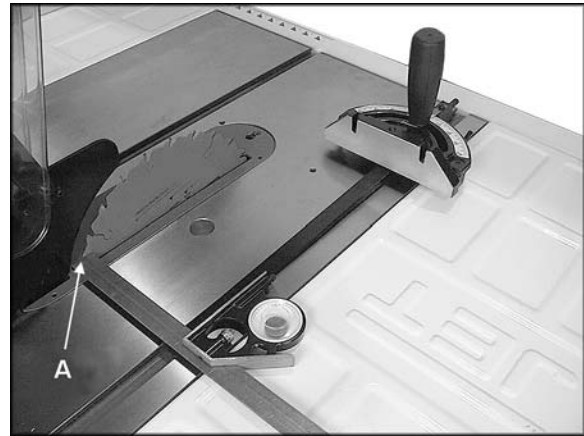

Figure 28
5. Rotate marked tooth (A) so that it is slightly above table top at the rear and, using the square as before, verify that the distance to the blade is the same. See Figure 28. If the distances are not the same, make a careful note of the difference.